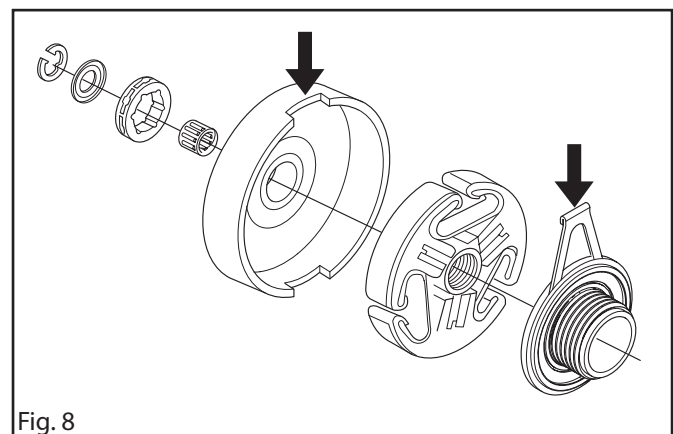

Fig. 8
8. Fit the oil pump gear (A). See figure 7. Exercise care to ensure that the clutch drum and oil pump gear fit in the cut-out in the drum. See figure 8.